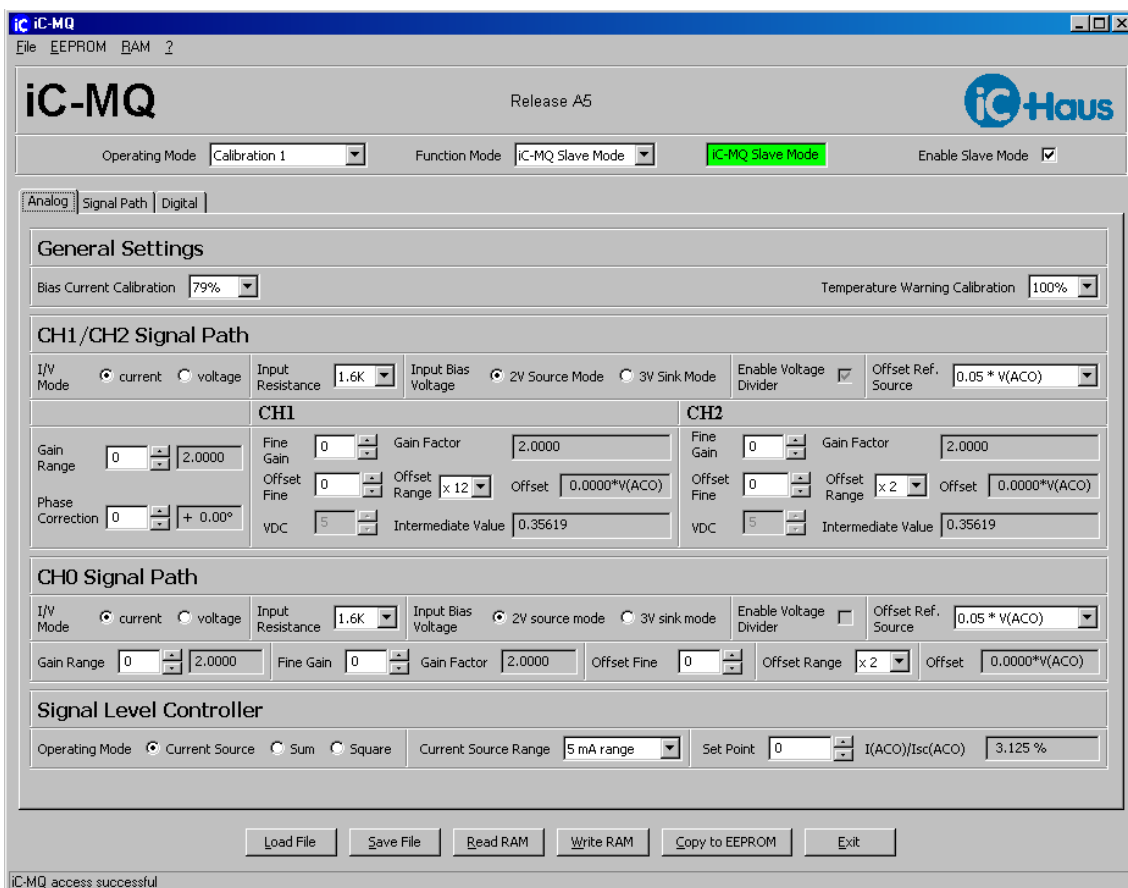

Figure 4: Screenshot of the software
3. Installation will make the software "iC-MQ\_xx.exe" available in the selected working directory. The execution of this file will start the software. Figure 4 shows a screenshot of the start up window.